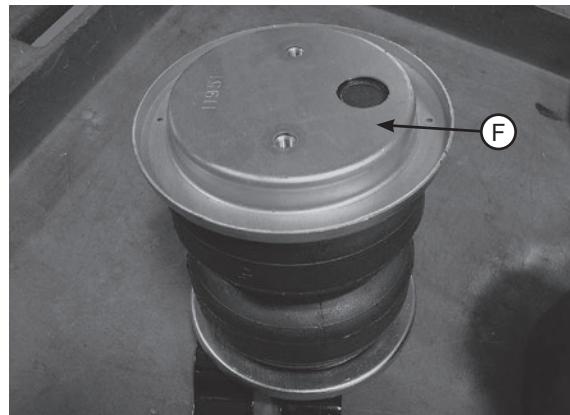

fig. D.9
3. Flip the assemblies over and set a roll plate (F) onto the bottom of the air springs (Fig. D.9).
4. Insert two 3/8"-16 x 10" carriage bolts (K) through the square holes in the lower bracket main plate (B) (Fig. D.9).